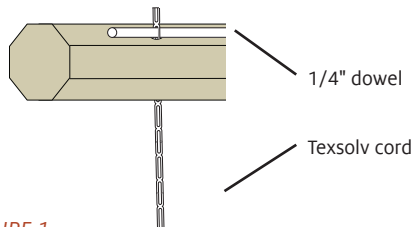

FIGURE 1
1. Insert an end of the 1/4" dowel through the first full loop from the end of the Texsolv cord (Figure 1).